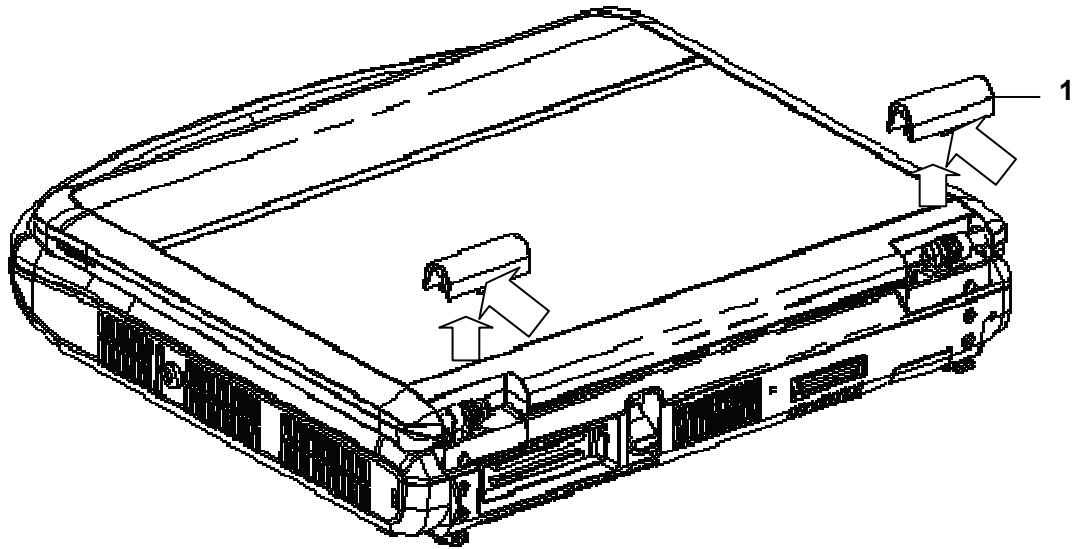

Figure 4-4 Removing the Damping Axis Cover
- 3) As shown in Figure 4-4, close the display, press down the damping axis cover to pop up the damping axis cover; take out the damping axis cover upward.